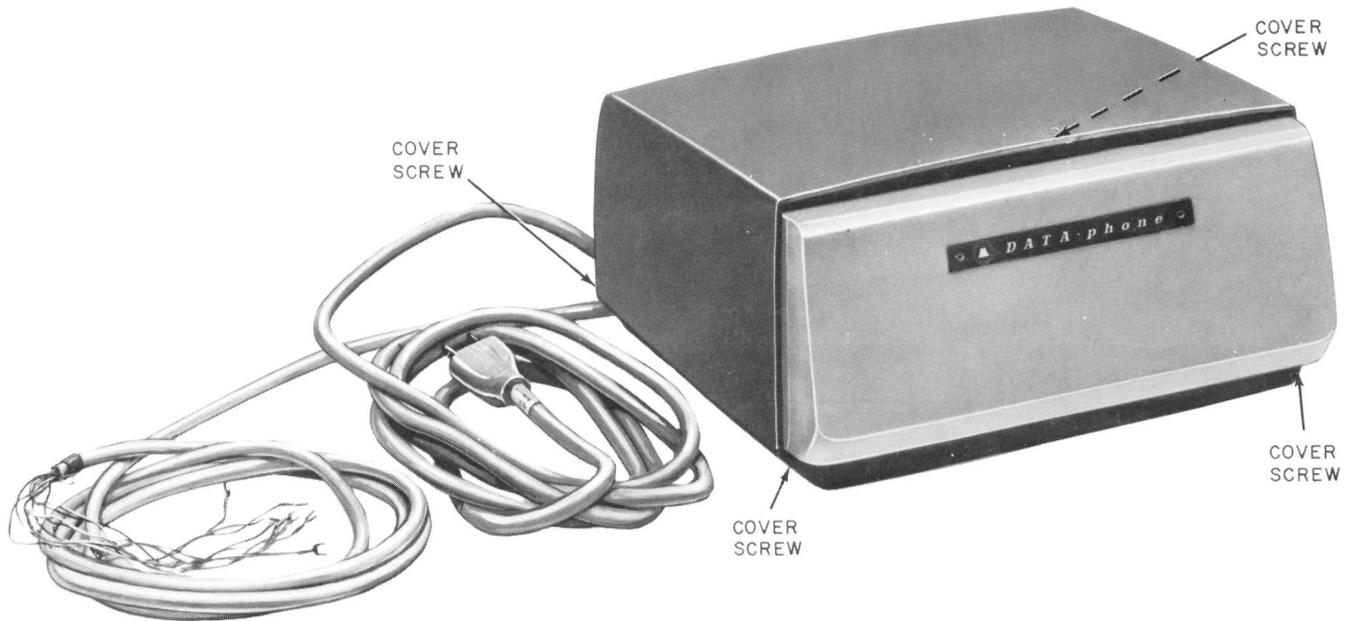

Fig. 1—Data Set 103H-Type
- (a) Loosen but do not remove the four captive screws located at each corner of the Data Set 103H-type base pan (Fig. 1).
4. CIRCUIT PACK (CP) REMOVAL AND REPLACEMENT